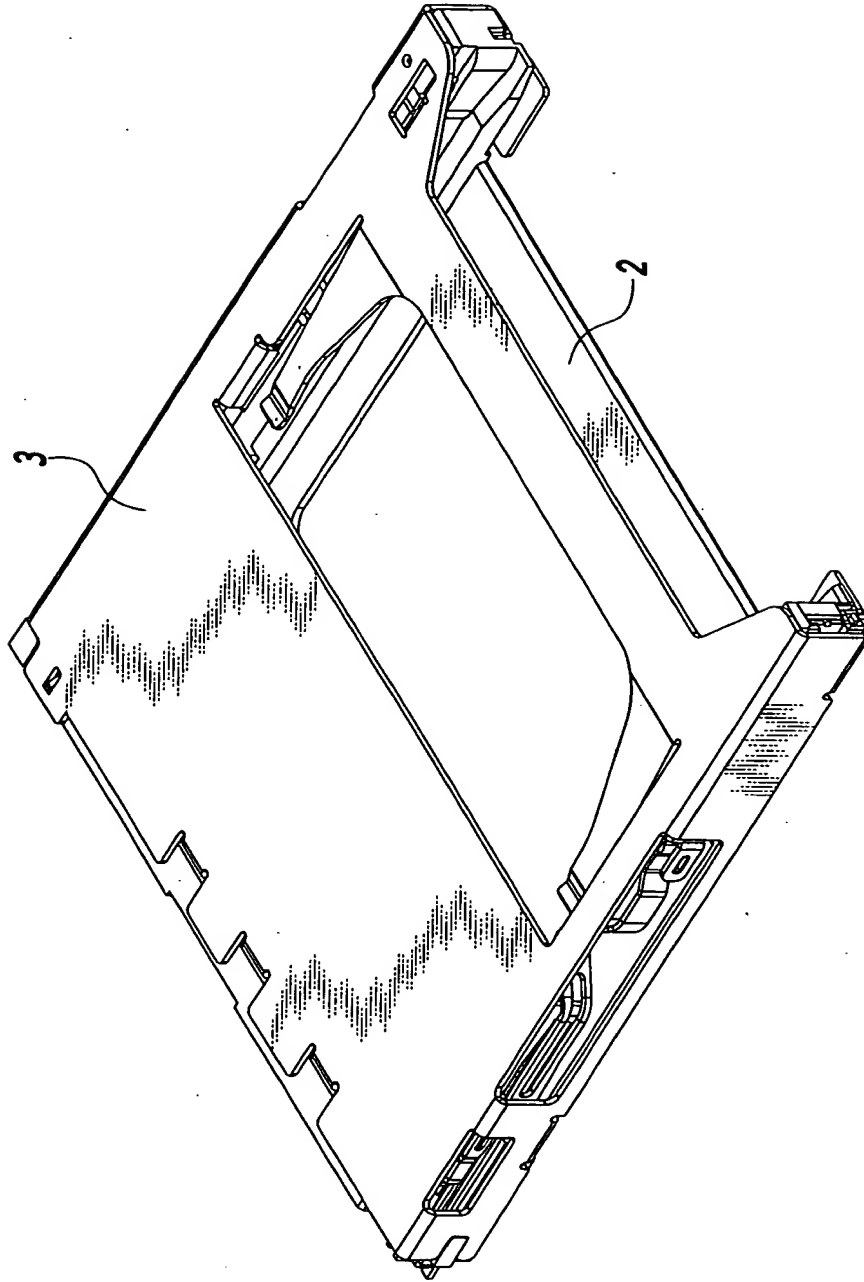

FIG. 30
FIG. 30 is a perspective view of a rectangular frame assembly. The assembly consists of a central rectangular panel (3) and four corner brackets (2). The brackets are positioned at the corners of the panel, and the panel is shown with a wavy, textured surface. The brackets have a complex, multi-faceted design with various slots and protrusions.